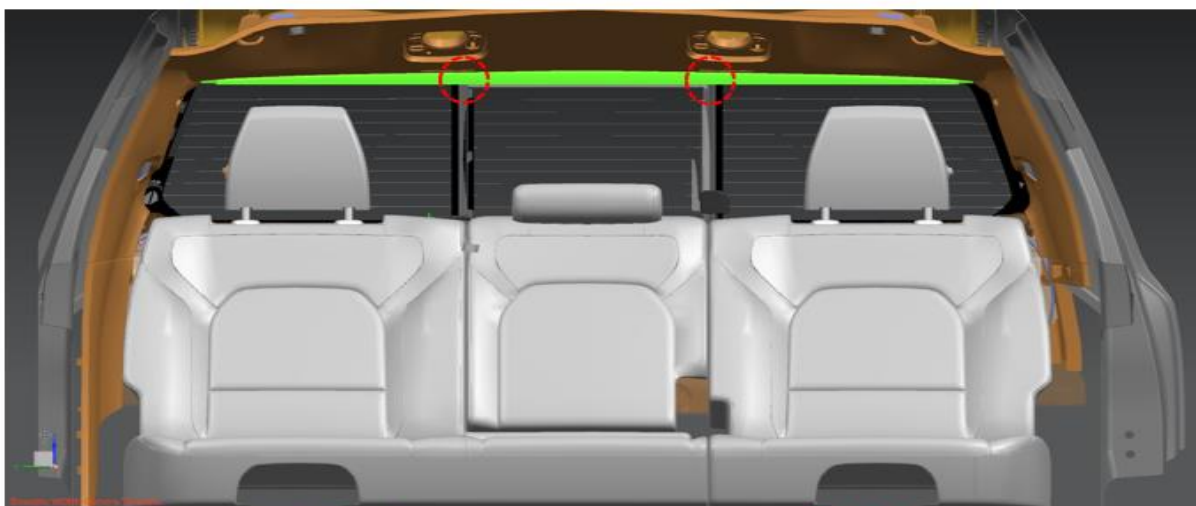

Figure 1 - Inside Truck Cab, Light Green Part is Upper Plastic Frame of Backlite, Red Circles are Potential Crack Locations
**Discussion:** Inspect backlite (rear window) upper plastic frame for cracks. If part shows visible marking near red circles in Figure 1, run fingernail across suspect area.